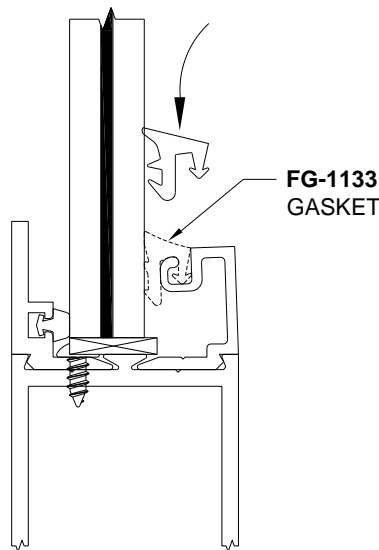

Figure 41: Installing FG-1133 Gasket
13.4.6 Press the **FG-1133** Gasket into the reglets in **S-83**, installing vertical Gaskets first, then horizontal Gaskets, as shown in Figure 41. The **S-81** stop will have **V-28** gasket pre-installed.